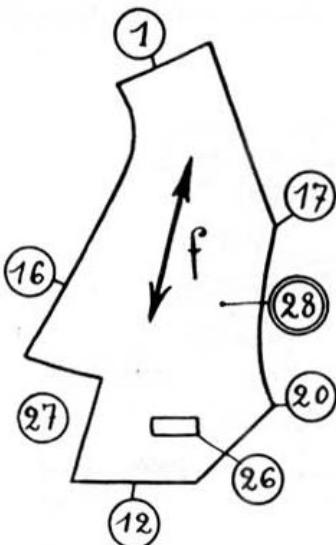

Figure 3.5: Plate inside front of cockpit
the gap 26 which measures 20×60 . With the tip of a knife, remove the plywood over this void; the pulley of the rudder cable will be placed there later. Also remove the plywood covering the quadrilateral 27, through which the axle will pass. Cover that assembly with plate 28, fig. 3.5, made of 3mm plywood, of which side ① is 150mm long.